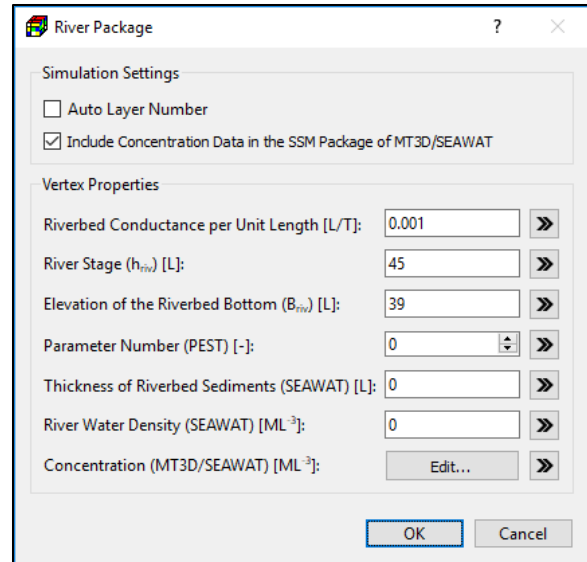

Figure 75. The River Package dialog box for specifying vertex properties
3. **Polyline input method:** Figure 75 shows a dialog box for specify data to one or more vertices of a polyline. The specified vertex data may be interpolated to model cells following the rules described in Section 3.4.2.2 and the rules below.